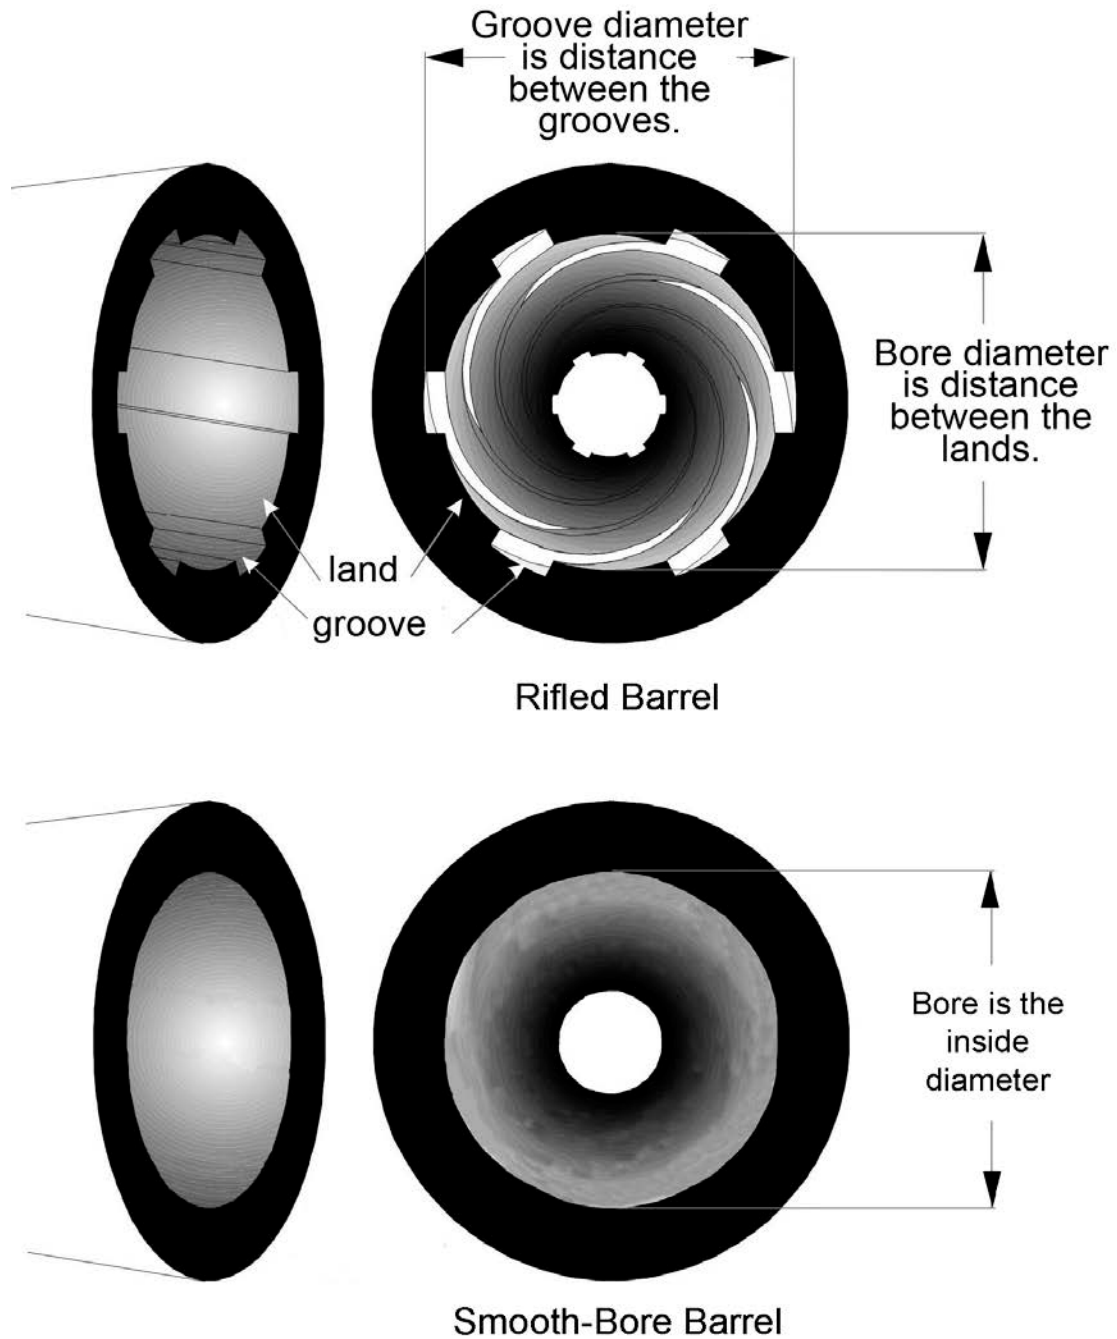

Figure 19. Rifled bore and smooth bore
- a. Rifled barrels have a series of spiral grooves inside the barrel. The ridges of metal between the grooves are called lands. The lands and grooves together make up the rifling (Figure 19).